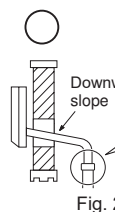

Fig. 2
- 6) Elbow joint should appear less than 1-3/16 in. (30 mm) outside. (Fig. 2)
- Pull out the drain hose at the back left of the indoor unit. (Fig. 2)
- The drain hose should point downward for easy drain. (Fig. 2)